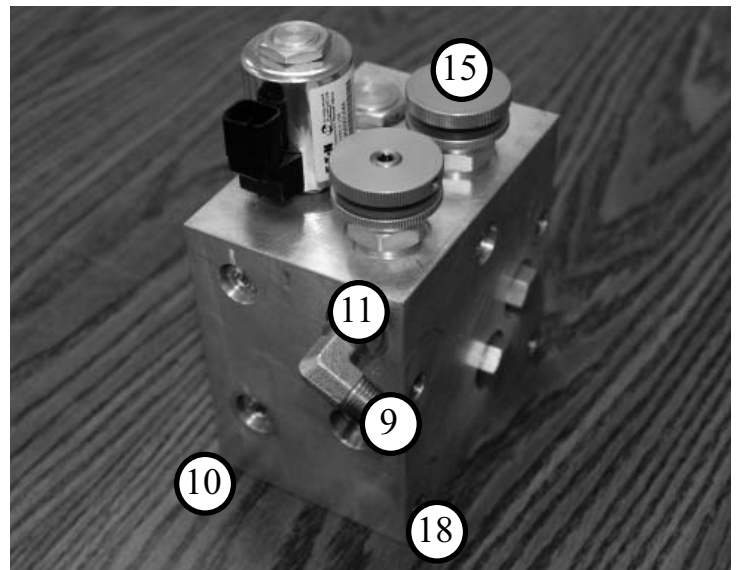

Figure 2.5 - Aux Lift Valve Block Assembly
1. Remove the four (4) existing bolts from the right side of the LIFT VALVE block located under the driver’s side steps.
2. If the swather unit is equipped WITH the Reel Fore/Aft block then you need to use the  $\frac{3}{8}$ ” x 6- $\frac{1}{2}$ ” bolts (#18) to secure the Aux lift block. See *figure 2.5*. If the unit is NOT equipped with the Reel Fore/Aft control then you will only need to use the  $\frac{3}{8}$ ” x 4” bolts.